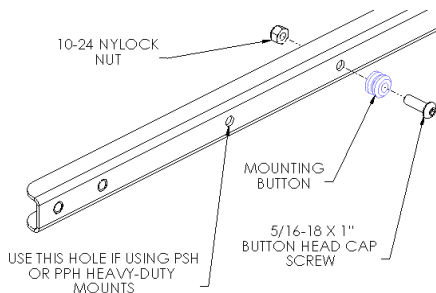
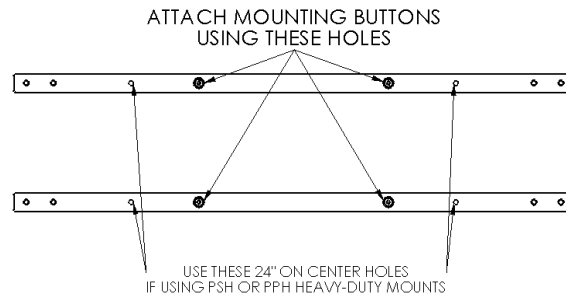

Figure 2
Figure 3
1. Using a 5/16-18 button head cap screw inserted from back side of bracket and Nylock nut, secure mounting button, with chamfered hole of mounting button (larger surface) facing bracket, to side brackets (four places) (see Figure 2 & Figure 3). Make sure bends of interface bracket face away from buttons. If using PSH or PPH Heavy-Duty mounts, attach buttons using outer (24" on center) holes.